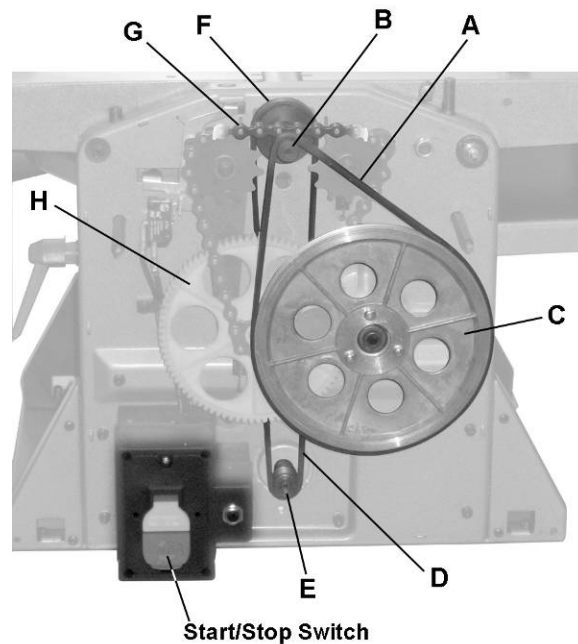

Figure 19
Refer to Figure 19 when installing or replacing the *feed-roller (A)* or *cutterhead drive (D)* belts.